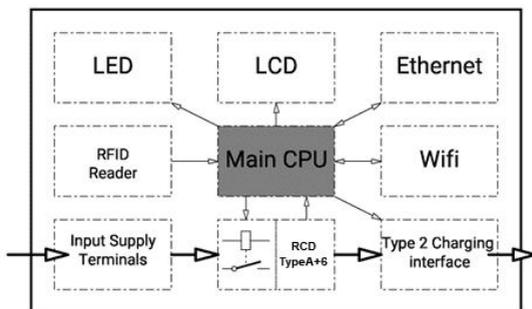

Fig. 4-2 Block diagram of products
- Sunnic AC EV charging station provides a 4.3-inch LCD screen, with the corresponding control, metering and communication functions, belongs to the special AC power supply device for EV. The block diagram is shown as Fig. 4-2.